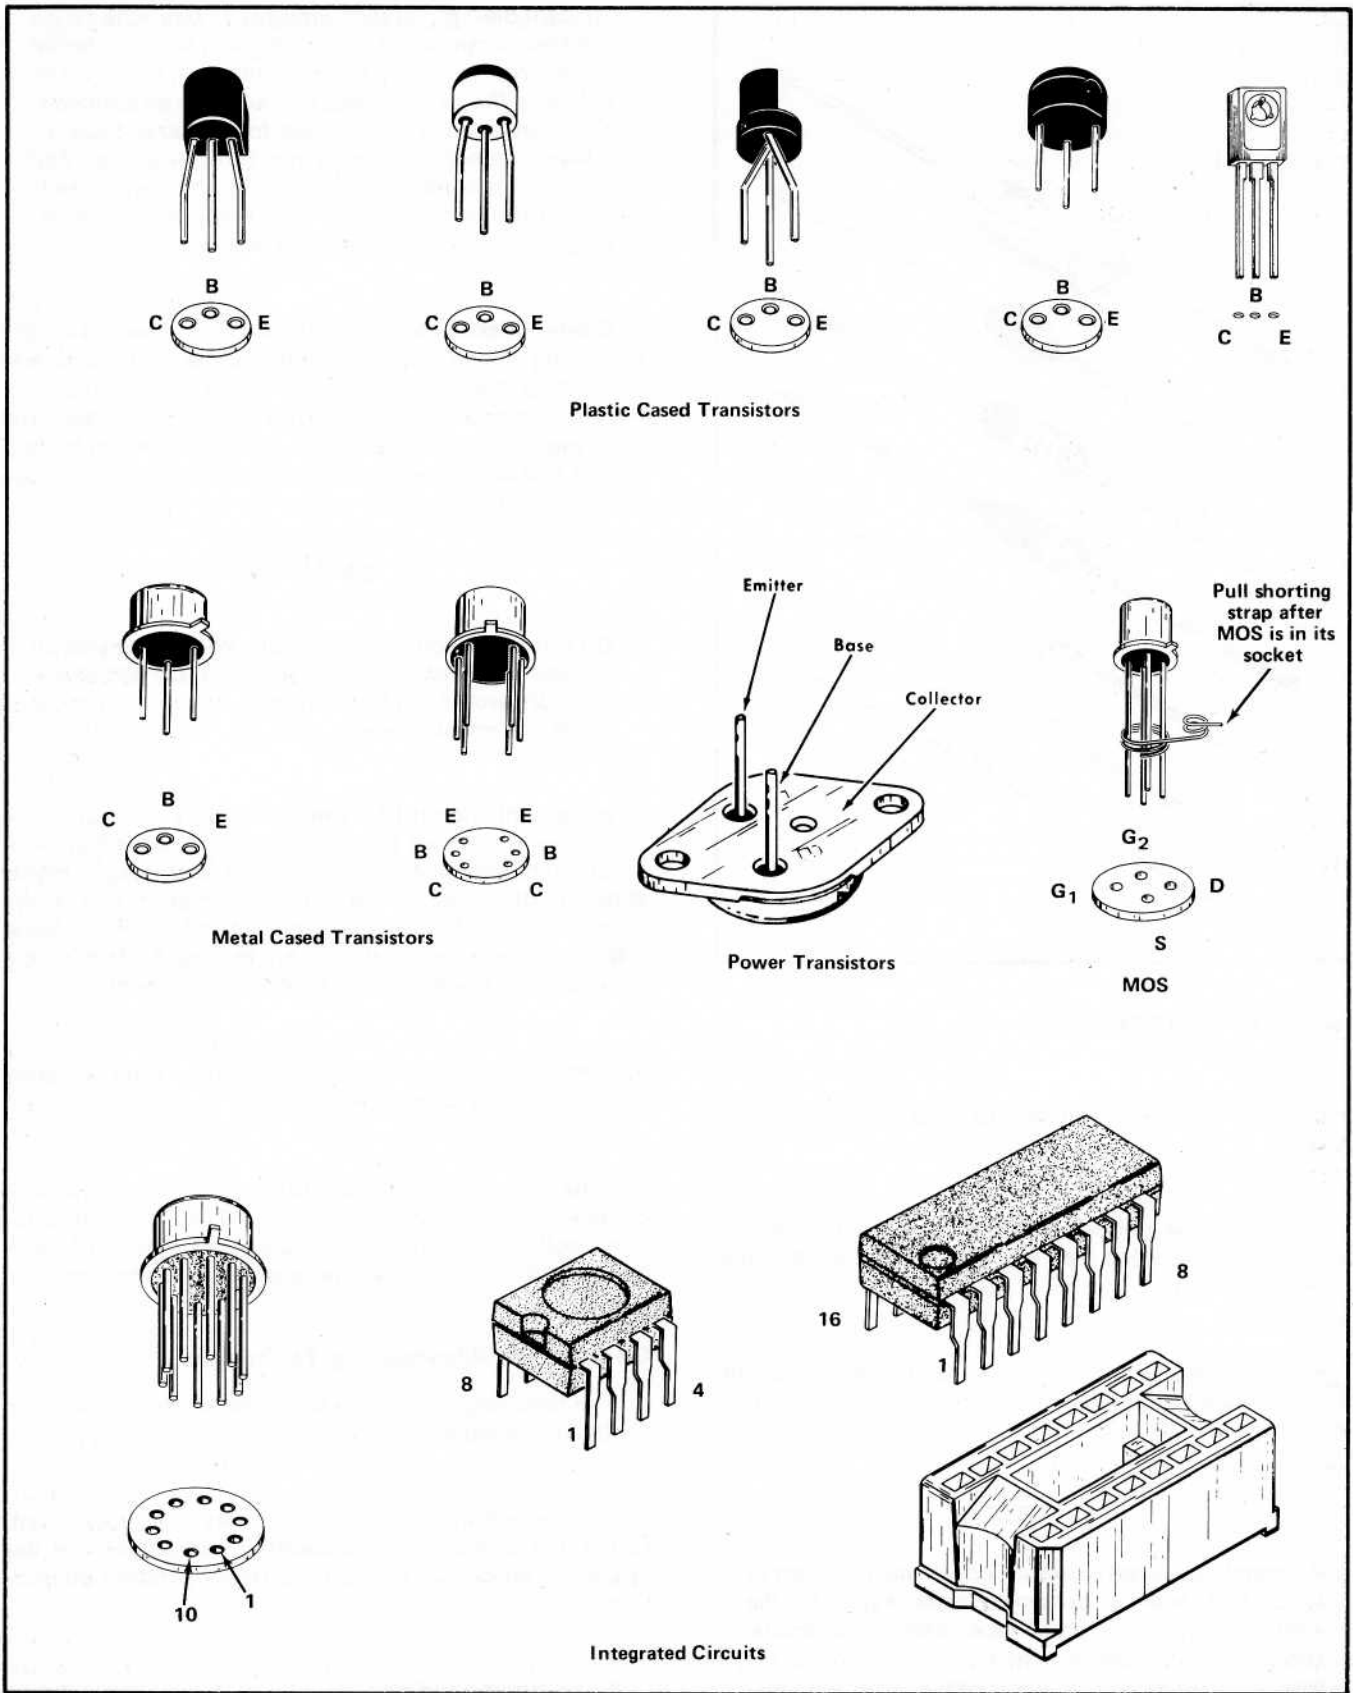

Fig. 6-3. Electrode configuration for socket mounted transistors, MOS's and IC's.
Transistor and Integrated Circuit Electrode Configuration. Lead identification for the transistors and MOS FETs is shown in Fig. 6-3. IC pin out diagrams are shown on the back of the adjoining pullout schematic diagram.
d. Be sure the component (transistor or IC) is inserted properly in the socket (see Fig. 6-3 or the manufacturer's data sheet).